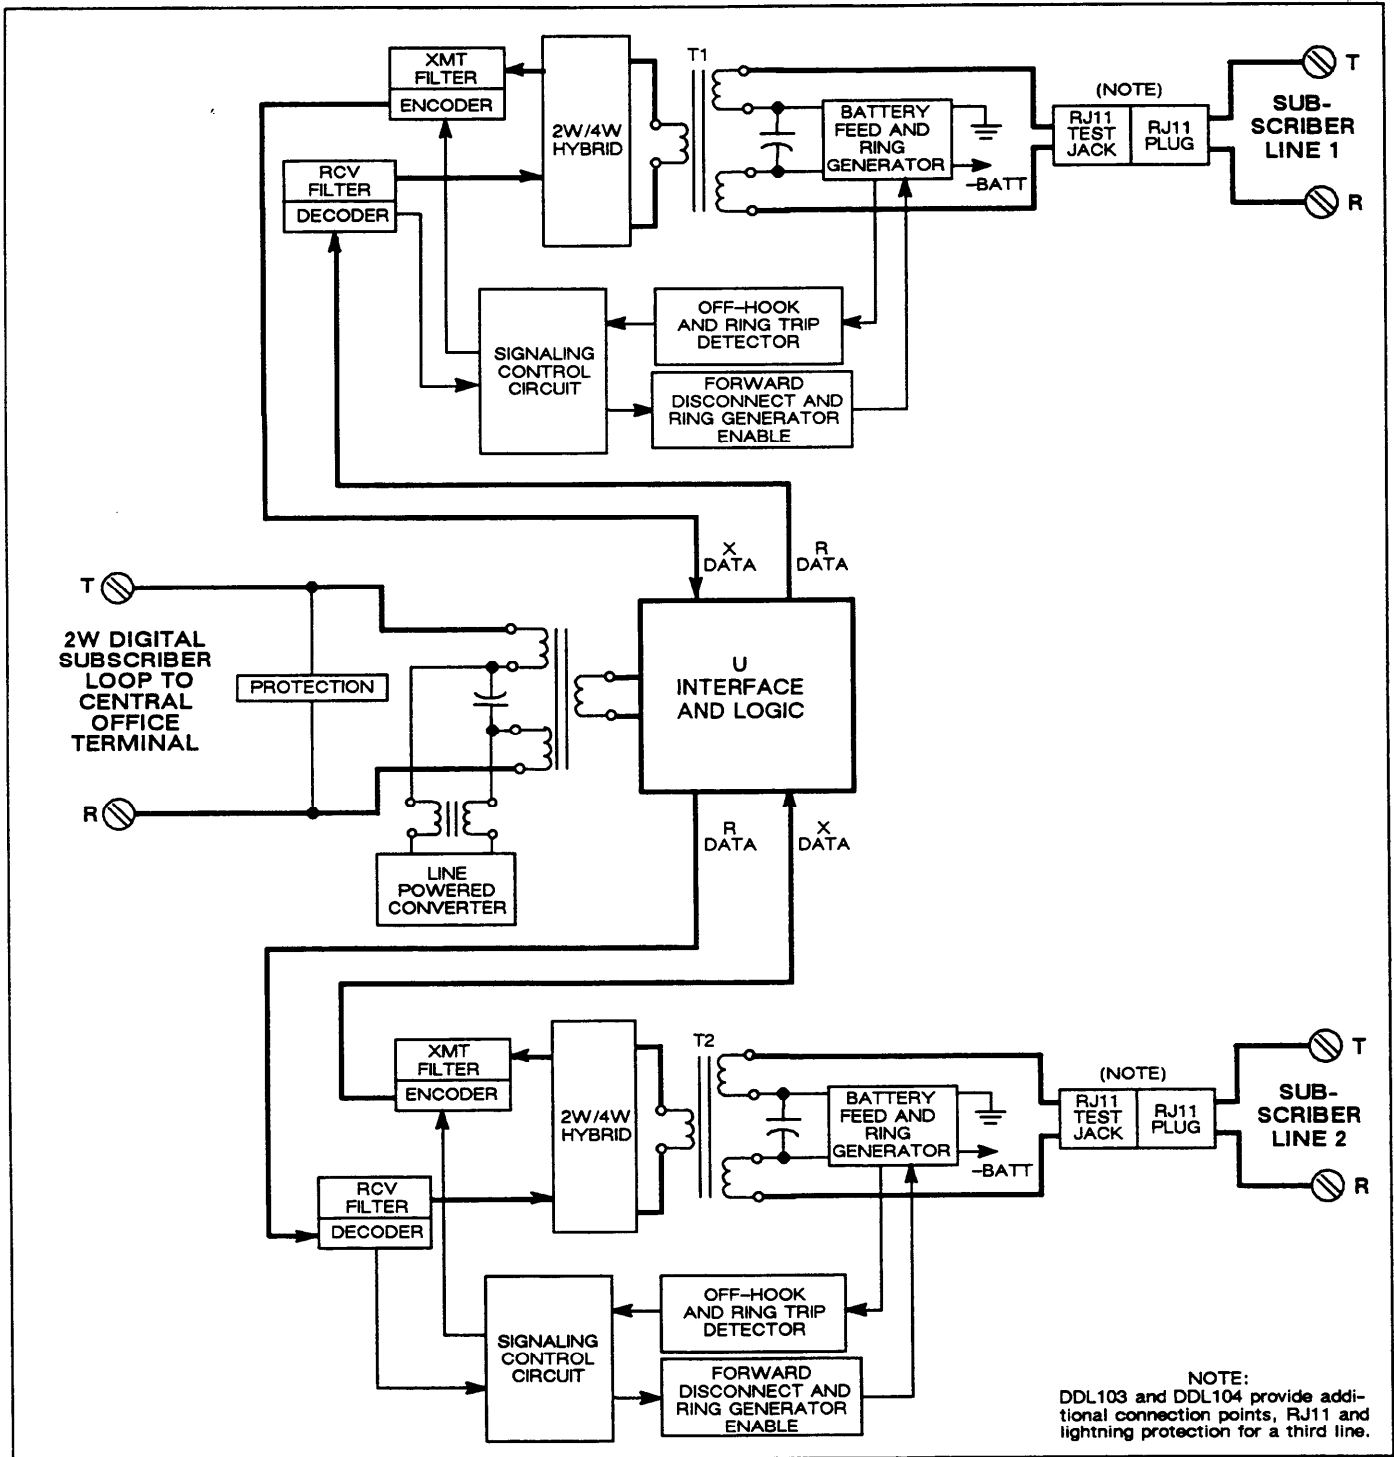

Figure 5. DDL101, DDL102, DDL111 and DDL112 RT Block Diagram
3.02 The RT (Remote Terminal) voice frequency analog signal from the subscriber line is applied to a 2-wire/4-wire hybrid circuit (see Figure 5). The hybrid circuit separates the transmit analog signal from the receive analog signal. The transmit analog signal is applied to an encoder which converts the signal to a  $\mu$ -law 64 kb/s digital signal. The encoder combines the 64 kb/s signal with the subscriber on-hook, off-hook status. This signal is then applied to the U interface.